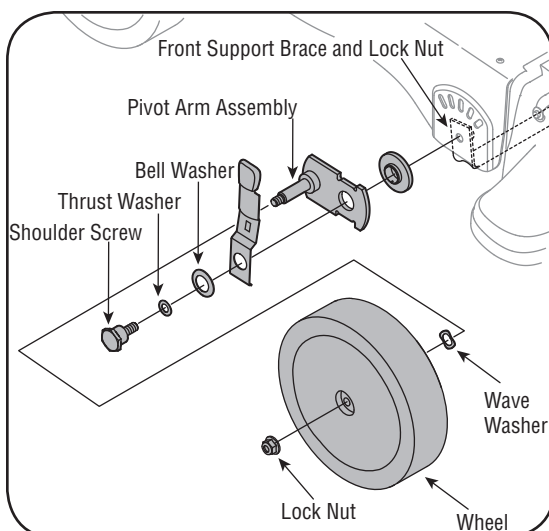

Figure 20
4. Remove the front hubcaps, flange lock nuts, front wheels, and wave washers that attach to the pivot arm assemblies. See Figure 20.